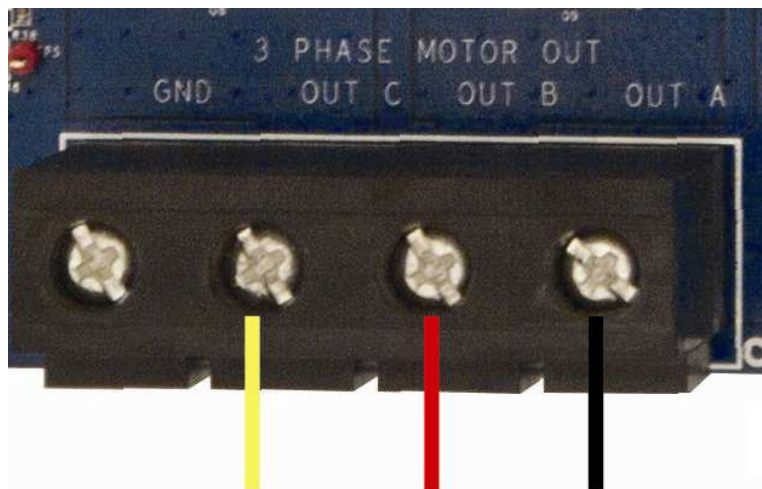

Figure 4. DRV830x-HC-EVM Motor Connections
- SW2 on controlCARD, Position 1 = UP (ON), Position 2 = UP (ON)
6. Connect the motor you want to spin to the “MOTOR” terminal block as shown in Figure 4.